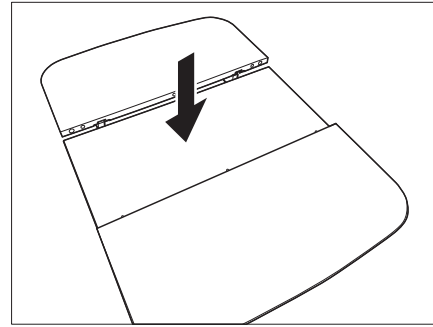

Fig. 104 Lower the middle part
- Push the middle part of the table firmly downwards (Fig. 104). The middle part is pushed upwards through the spring force.
- Push the middle part of the table firmly downwards. The middle part latches into the lower position (Fig. 104).